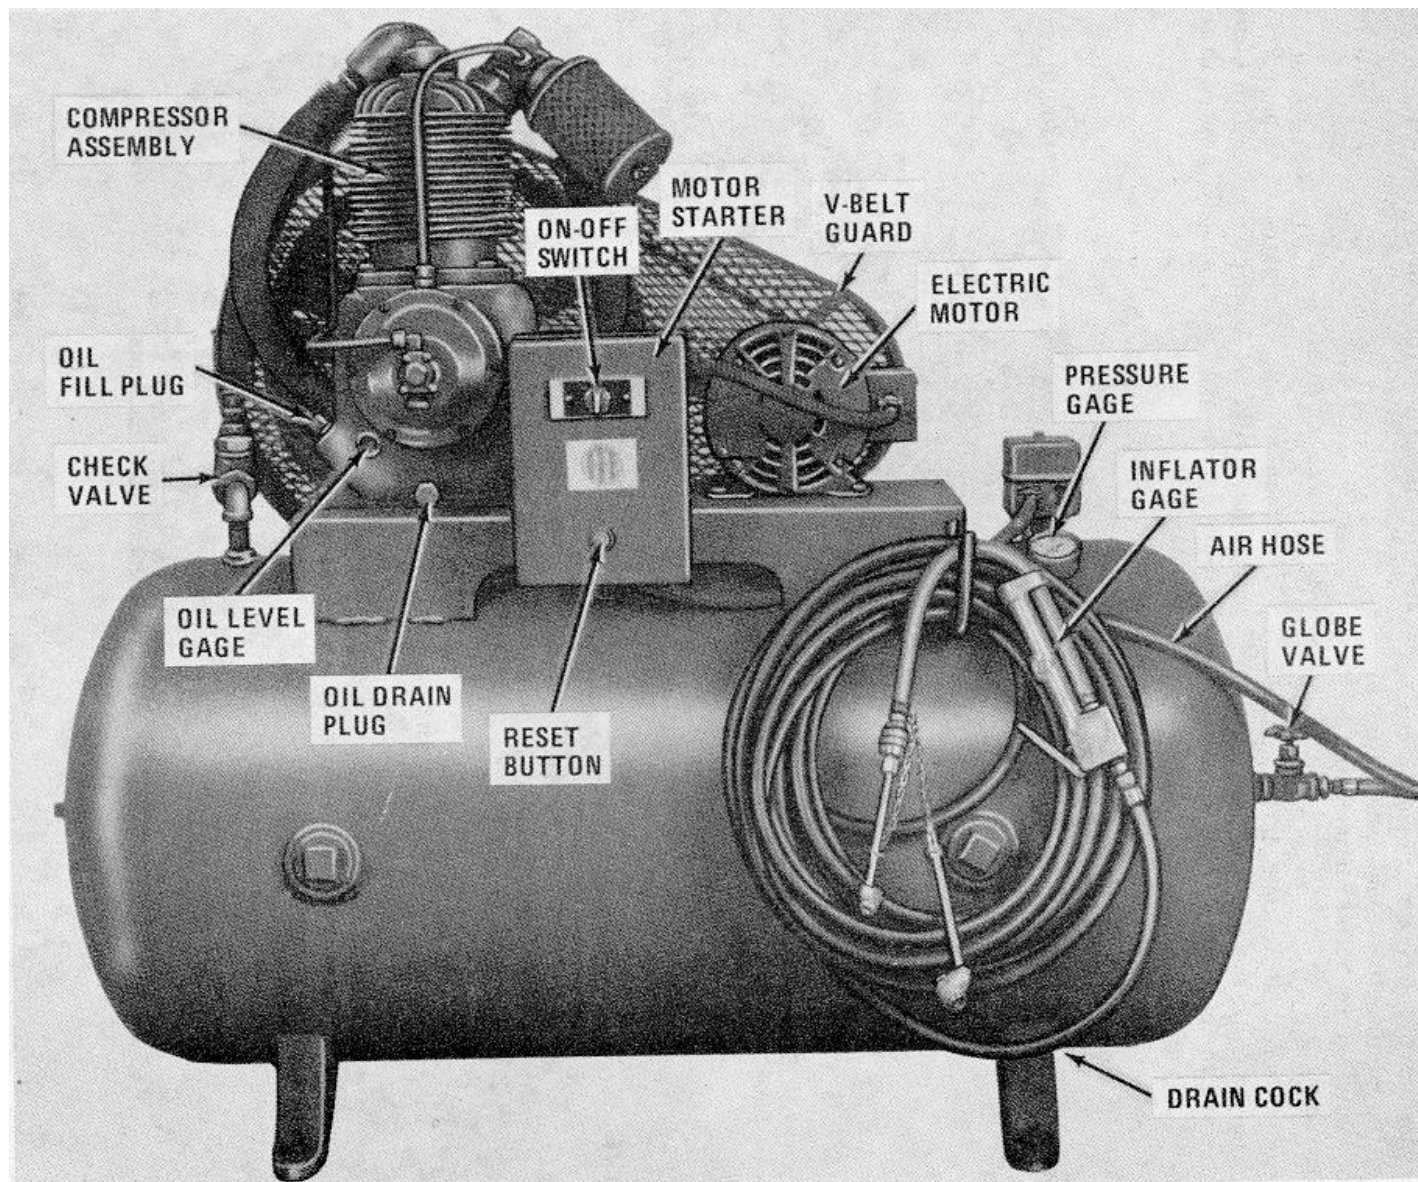

Figure 1-1. Air Compressor, right side view.
a. The HR2-6M-1 (figs. 1-1 and 1-2) is a two cylinder, reciprocating type air compressor capable of delivering 5 cubic feet per minute (0.1415 cu meters per min). The compressor assembly and associated electric motor are mounted on a frame which is welded to the air receiver, and 60 gallon steel tank. The electric motor drives the compressor assembly by means of a matched pair of V-belts.